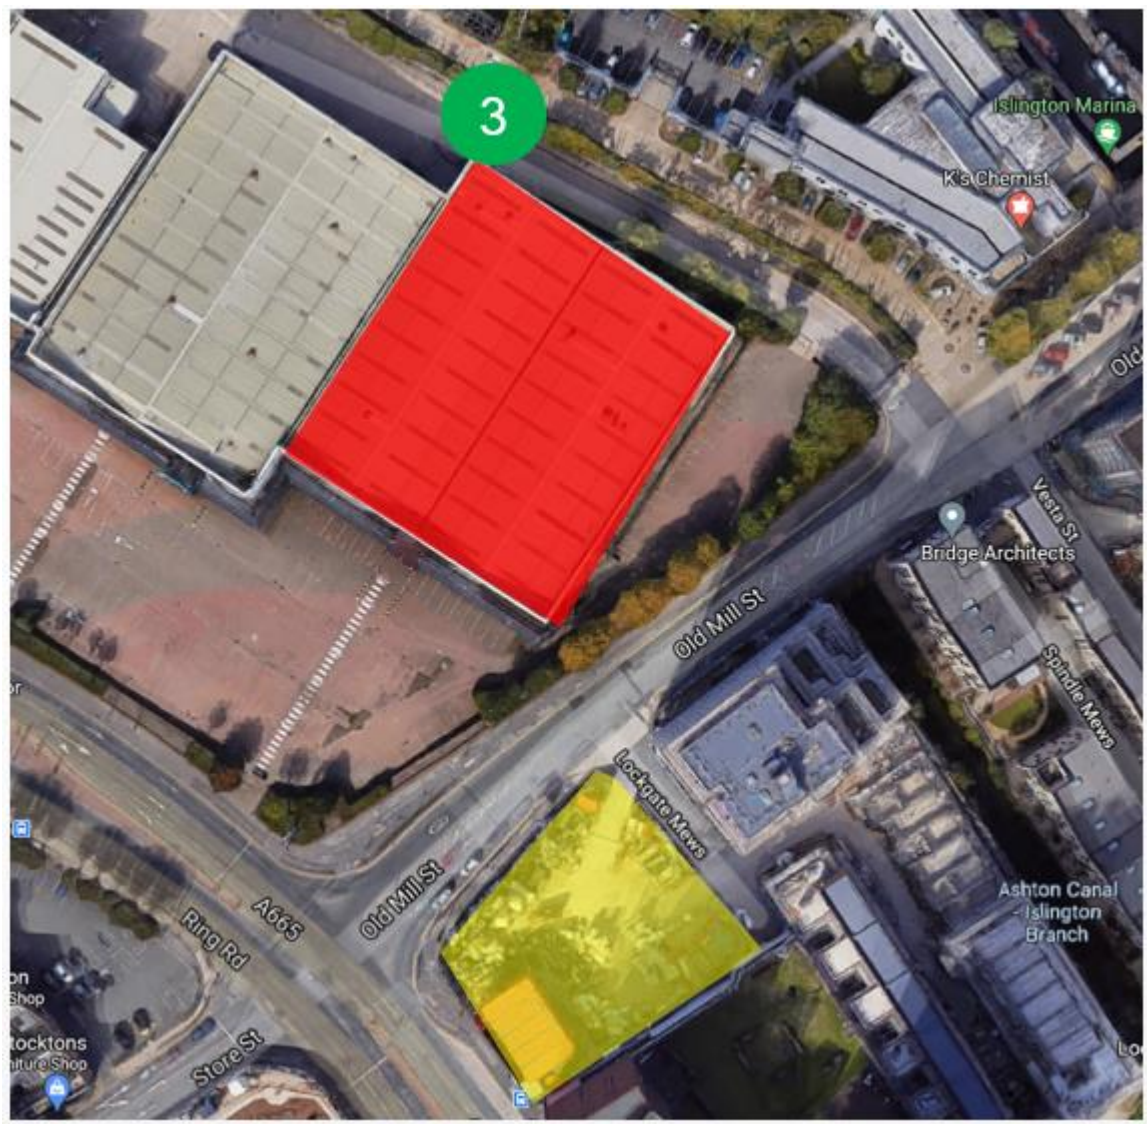

Figure 1: Site area & compound locations
The site boundaries are dictated by the extent of works covered under the planning application. These will be established prior to any main works commencing on site and will provide both protection to the public and provide security to the site operatives & equipment. Figure 1 below highlights the site compound area highlighted in red, and the site area in yellow. Primary vehicular interfaces are down Old Mill Street and Lockgate Mews which are key for our construction management plan. Figure 2 provides more detail showing proposed site boundary including access & egress points.
- Access point 3 - in figure 1: This is the primary access and egress route into the site compound & welfare area. This will be utilised by operatives and staff for gaining access to parking areas and site cabins that will be located here.
- Site set-up – in order to ensure suitable segregation of the construction site and office facilities, the temporary hoardings will be erected to the perimeter of both areas shown on fig 1.
- Private vehicles – as some private vehicles will be travelling from outside of the area, we are proposing to utilise the red site compound shown in fig 1 as a car park/ laydown area. This will allow the operatives to park their vehicles off the main highways to reduce disruption to the highway / main bus routes and traffic zones.
As per previous figure 1 & 2 the site compound and welfare area are separate from the main build area, we have shown 1 no access point into the welfare zone & 2 no onto the site area.
- Access point 3 (fig 1) This is the primary access and egress route into the compound area. This will be utilised by operatives and staff for gaining access to parking areas and site cabins. HGV's will utilise this entrance for deliveries to support the compound area (cabin deliveries etc) and for laydown of materials for storage.